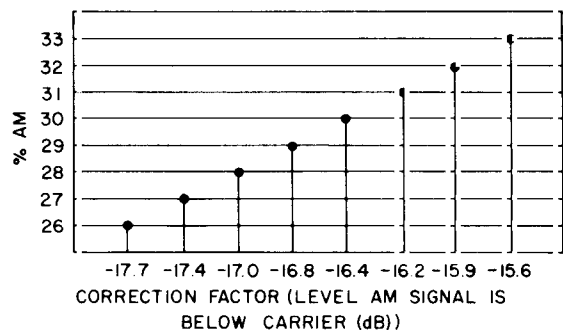

Figure 4-10. Correction Factor Chart
6. Observe the oscilloscope display. The amplitude modulation signal (peak-to-trough amplitude) should be about 1.5 cm (approximately 30% modulation). Determine the correction factor by calculating actual percentage of modulation and referring to the graph in Figure 4-10. To calculate actual percentage divide the peak-to-trough amplitude of the modulated signal by the peak-to-peak amplitude of the unmodulated signal (5 cm) and multiply by 100.
Example, if the calculated percent of modulation is 30% (step 6) the correction factor will be 16.4 dB (Figure 4-10). Since the minimum level of Incidental AM must be 55 dB below the carrier, the 1 kHz amplitude should decrease by at least 38.6 dB (minimum specification level - correction factor).